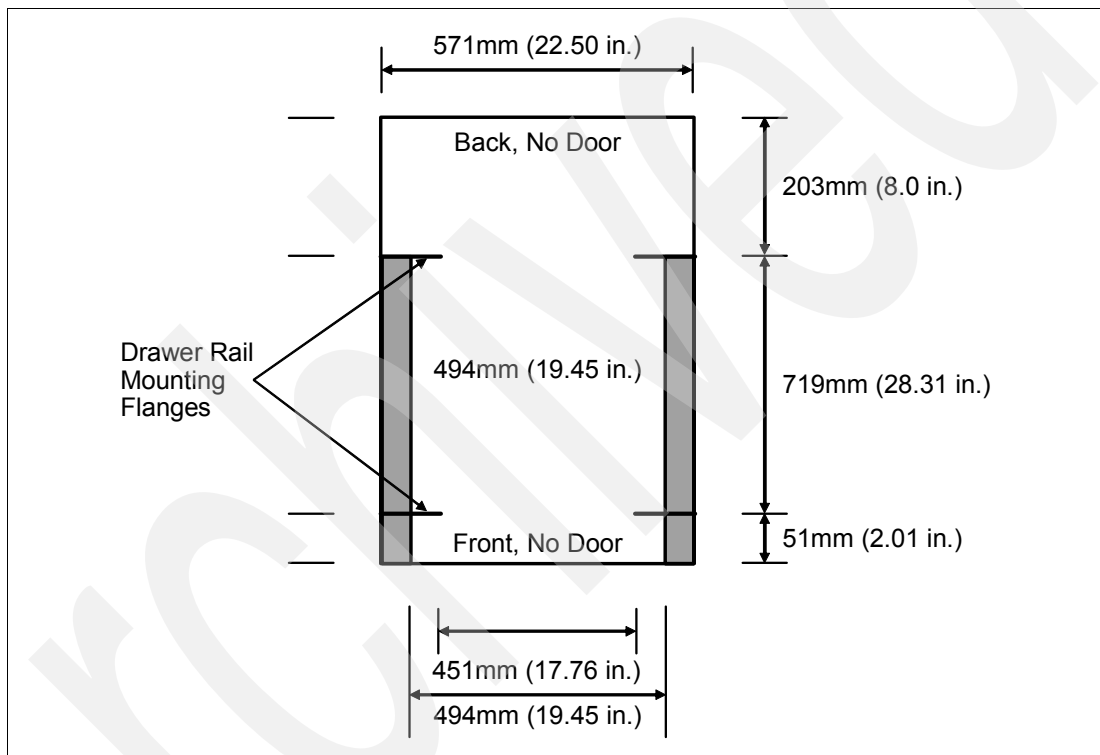

Figure 1-6 Top view of non-IBM rack specification dimensions
- ▶ The front rack opening must be 451 mm wide  $\pm 0.75$  mm (17.75 in.  $\pm 0.03$  in.), and the rail-mounting holes must be 465 mm  $\pm 0.8$  mm (18.3 in.  $\pm 0.03$  in.) apart on center (horizontal width between the vertical columns of holes on the two front-mounting flanges and on the two rear-mounting flanges). See Figure 1-6 for a top view showing the specification dimensions.